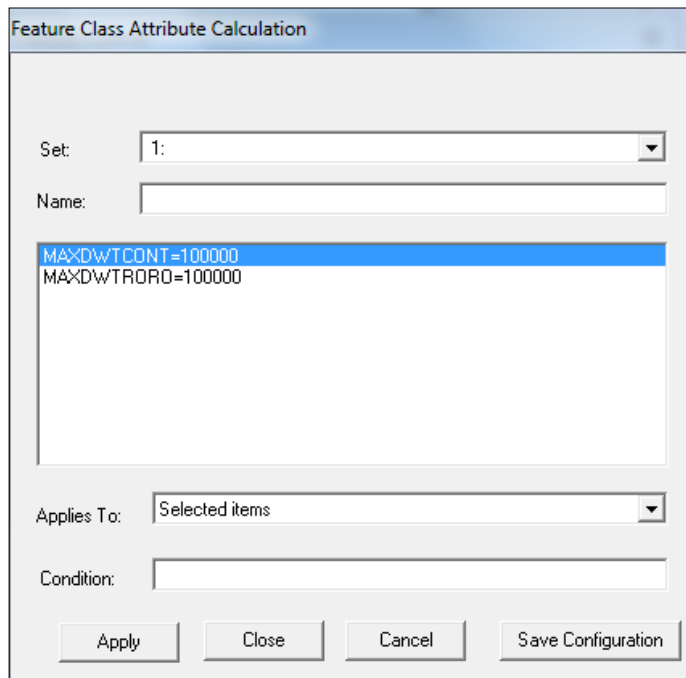

Figure 77 The Feature Class Attribute Calculation window under process to change capacity in ports
- 6) Select Node -> Compute and type in the equations by right-clicking in the largest field (in the middle) and select "Insert" (e.g., MAXDWTRORO=100000, see Figure 77. To see the available parameters, right-click in the blank field in the Insert Equation window) and select which items the edits should apply to (all or selected). Click "Apply". When finished, click "Close".